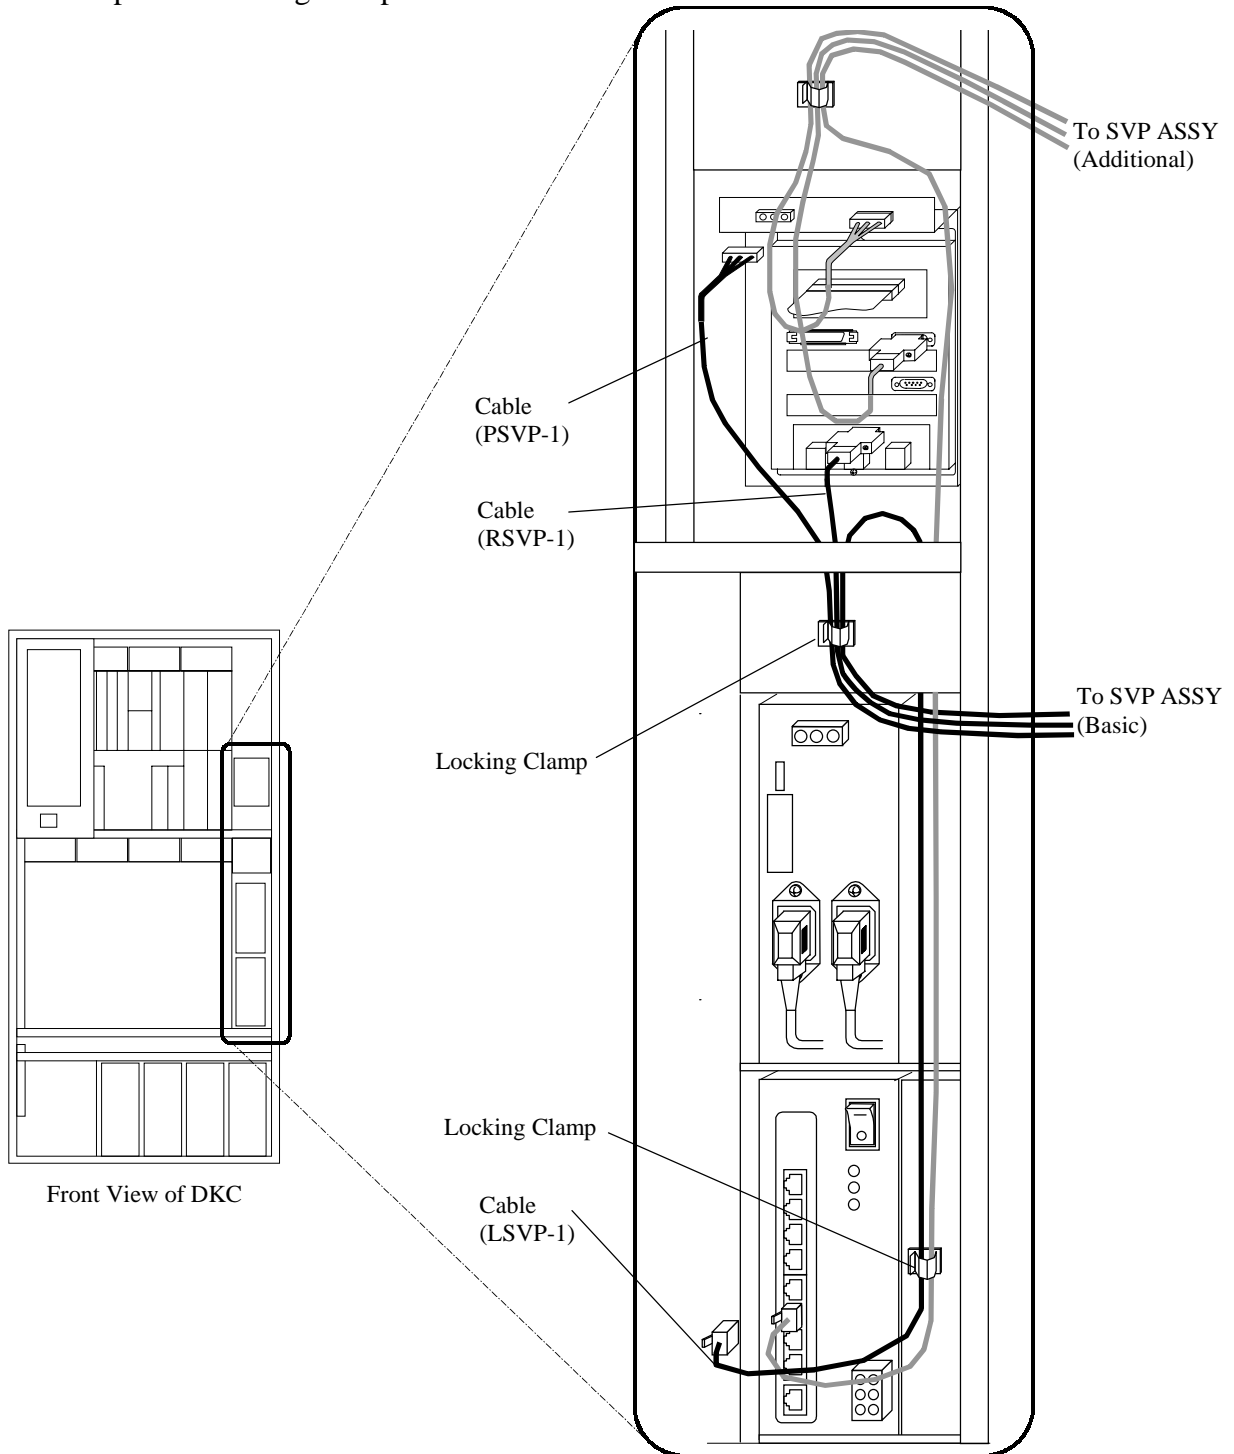

Fig. 3.15-6 Removal of Cables
- b. Attach the SVP ASSY cables to the RS CON PCB, HUB BOX and CON PLATE. And then close the locking clamps. (See Fig. 3.15-6 and 3.15-9.)